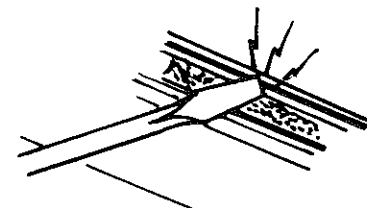

FIGURE 17
(3) Open circuit. This means simply that the electric path from the power pack to the train is not complete. Check as follows. Take the train off the track. Connect a metal screwdriver across the track rails momentarily. (Fig. 17) Do you see sparks? Then the electric circuit is all right but the trouble is with the locomotive. **Note:** By making a direct connection between the two rails you are really creating a short circuit. If this short circuit exists for more than a second or two, the circuit breaker will snap the current off — so you won't get any more sparks. In this case set the circuit breaker back on as described in the Note.